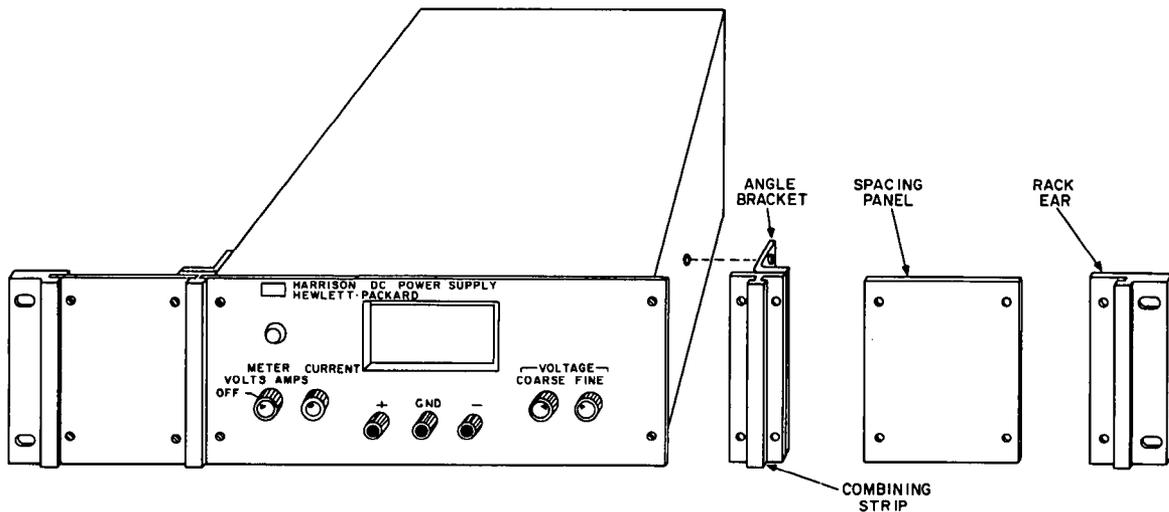

Figure 2-2. Rack Mounting, One Unit
- a. Bolt rack mounting ears, combining straps, and angle brackets to each side of center-spacing panels. Angle brackets are placed behind combining straps as shown in Figure 2-2.